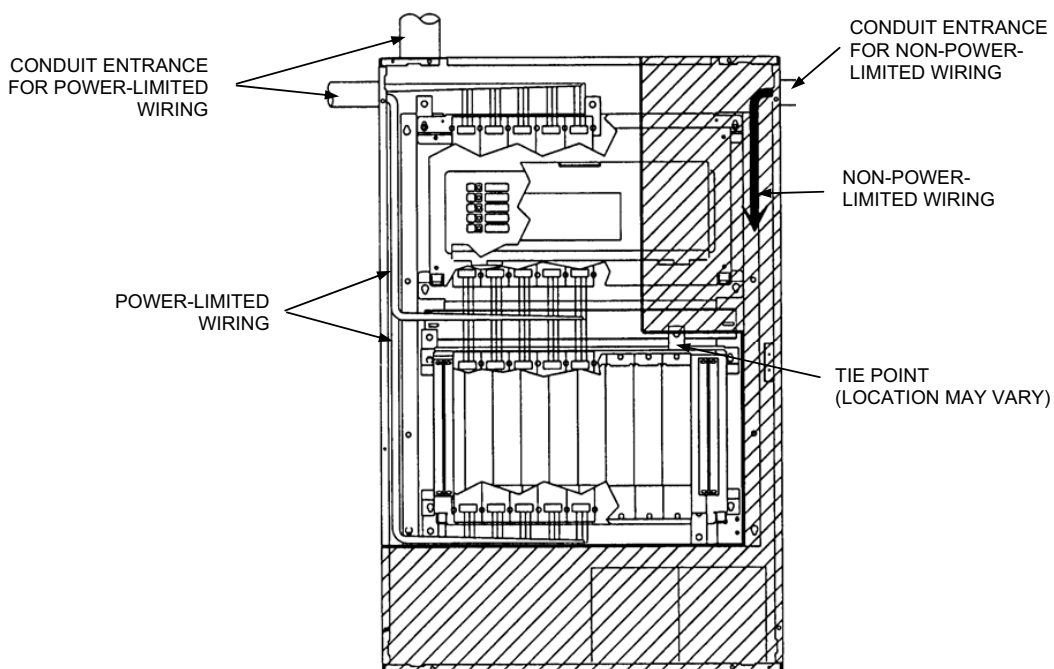

Figure 5 Power-Limited Wiring
- Non-power-limited field wiring (AC power, batteries, city connection) must be installed and routed in the shaded areas shown in Figure 5.
- Power-limited field wiring must be installed and routed in the non-shaded areas shown in Figure 5, with the exception of city wiring.
- Excess slack should be kept to a minimum inside the back box enclosure. The wiring should be neatly dressed and bundled together using the wire ties provided with the equipment. Anchor power-limited wiring to tie points, as shown in Figure 5.